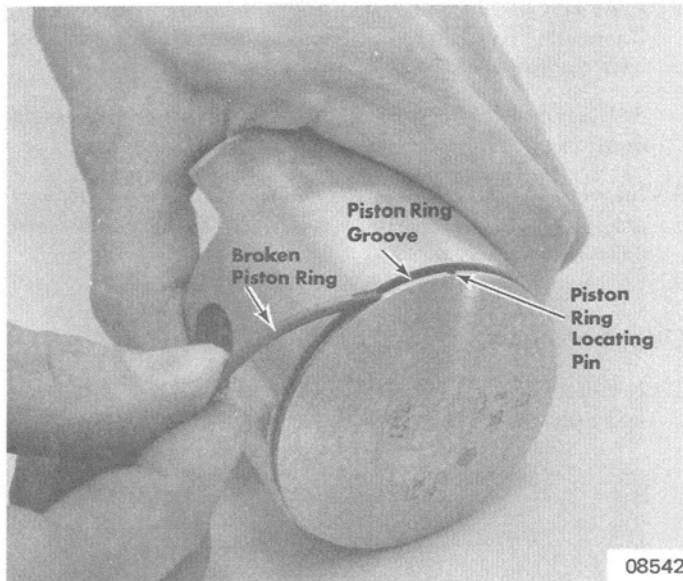

Figure 13. Cleaning Piston Ring Groove
2. Thoroughly clean pistons. Remove carbon deposits and "varnish" from pistons with a soft wire brush or carbon remover solution. Clean ring grooves with recessed end of a broken ring. (Figure 13) Do not burr or round machined edges.
4. Inspect piston ring grooves for wear, burn and distortion. Piston ring locating pins (located in ring grooves - Figure 13) prevent rings from rotating. Locating pins must be tight in ring grooves. Replace piston(s) as necessary.